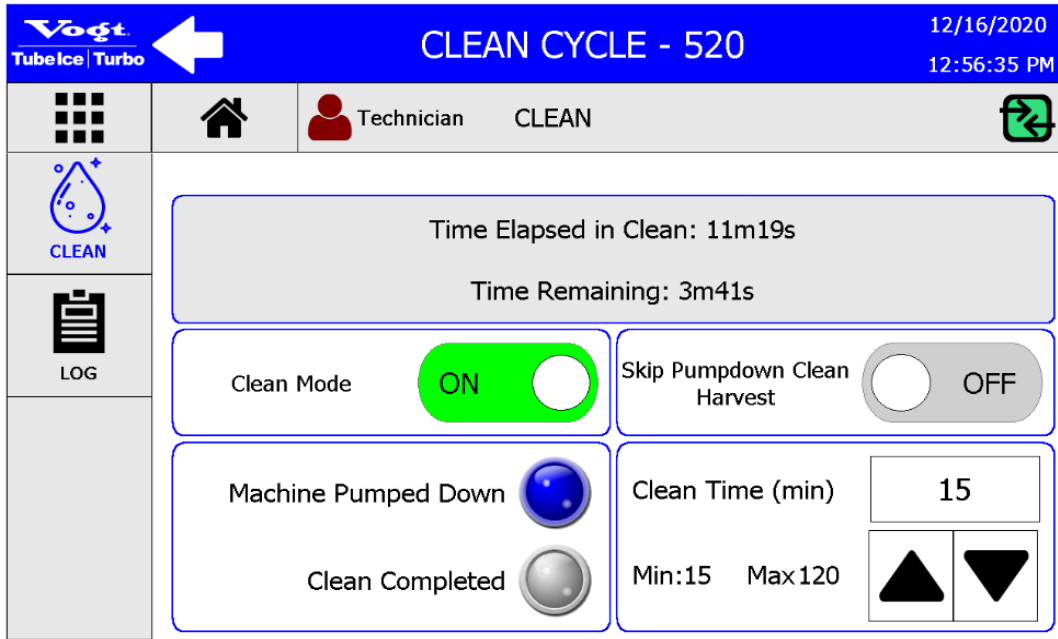

Figure 55: CLEAN Screen – Machine Pumped Down
10. After the machine has pumped down, the icon next to **Machine Pumped Down** will turn blue, the compressor will turn off, and the water pump will begin circulating the cleaning solution. See Figure 55.